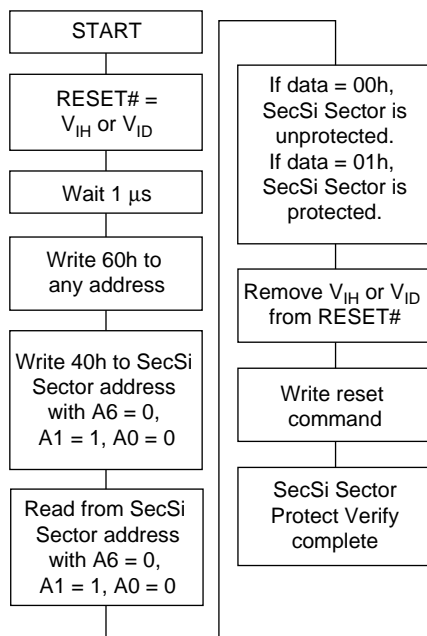

Figure 2. SecSi Sector Protect Verify
- To verify the protect/unprotect status of the SecSi Sector, follow the algorithm shown in Figure 2.